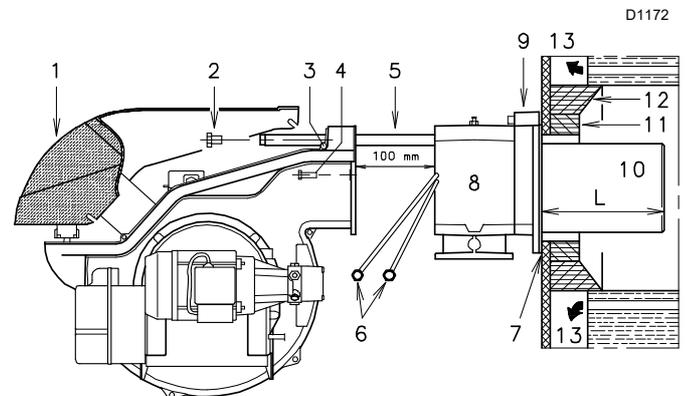
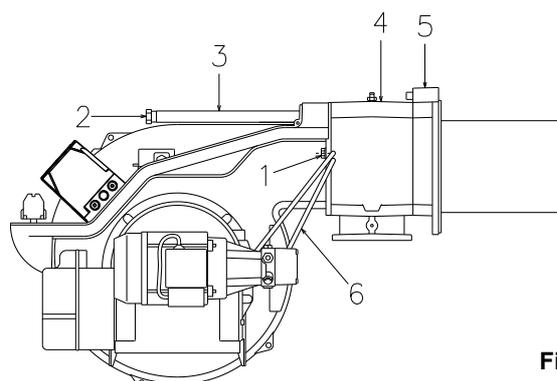

Fig. 11
Fig. 17
For boilers with a water-cooled front piece, a refractory lining 11)-12)(Fig. 11) is not necessary, unless expressly requested by the boiler manufacturer.
Separate the combustion head from the rest of the burner (Fig. 11):
Once this operation (if necessary) has been carried out, fix the flange 9)(Fig. 11 on page 17) to the boiler plate, interposing the insulating gasket 7)(Fig. 11 on page 17) supplied. Use the 4 screws, also supplied with the unit, after protecting the thread with anti-seizing product.
- Reassemble the burner on the guides 3)(Fig. 17) at about 100 mm from the pipe coupling 4), burner in the position shown in Fig. 11 on page 17;
- insert the electrode cables and then slide the burner up to the pipe coupling, the burner in the position indicated in Fig. 17
- refit screws 2)(Fig. 17) on slide bars 3);
- reconnect the light oil pipes by screwing the two fittings 6)(Fig. 11 on page 17).